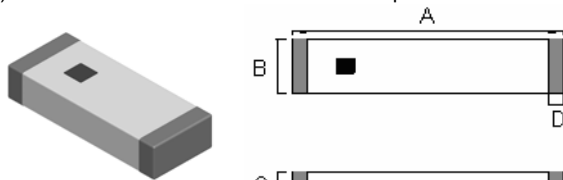
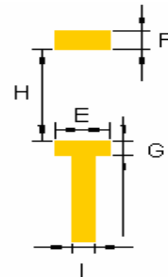

Fig.4-1
Fig.4-2
- Dimensions and recommended PCB pattern for reflow soldering: See Fig. 4-1, Fig. 4-2 and Table 4-1